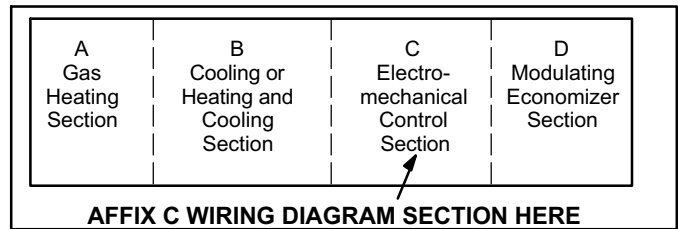

Figure 8. Affixing System Wiring Diagram
2. Wiring diagram sections are affixed to inside of unit panel in alphabetical order. Figure 8 shows an example of a complete system diagram on an installation consisting of an LGH240 unit with an electro-mechanical or electronic control system and a modulating economizer. Affix the C section wiring diagram, provided, over the top of the existing C section wiring diagram.